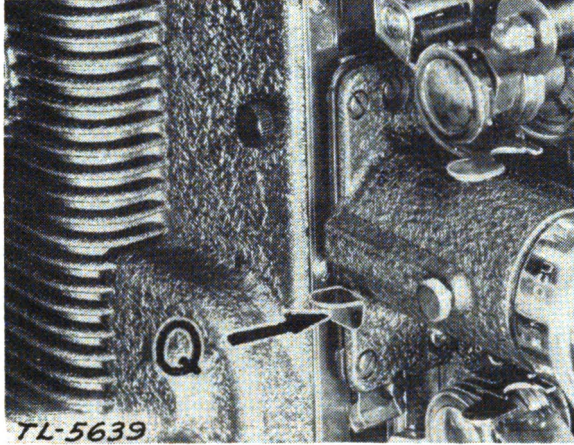

FIGURE 28.—Phonofilm framing lever.
**10. Framing image.**—For correct framing, each individual frame of the film must be centered properly at the film gate. When improperly framed, the image on the screen appears divided. To frame the image on the Bell & Howell and Phonofilm projectors, move the framing lever *Q* (fig. 28) up or down until the image appears nor-